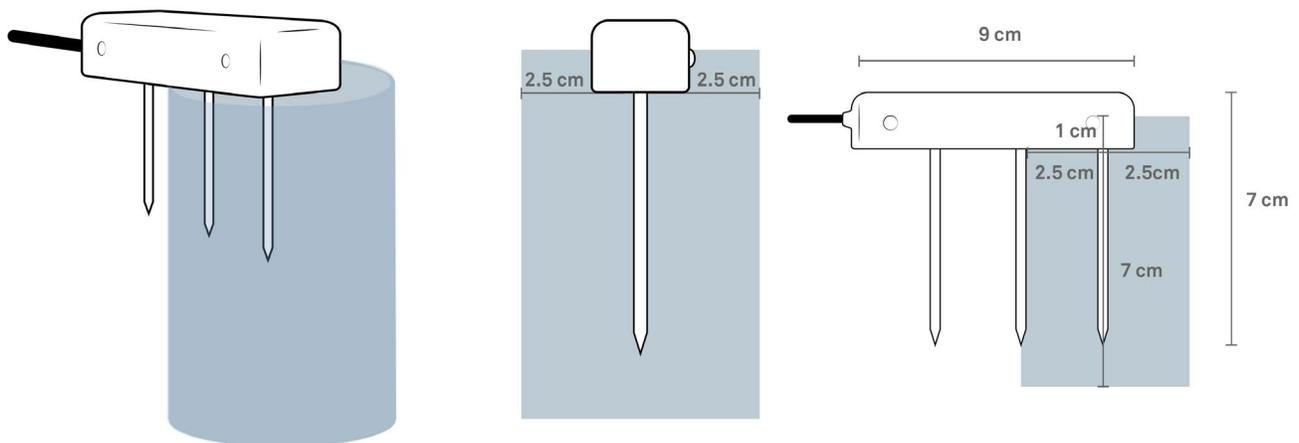
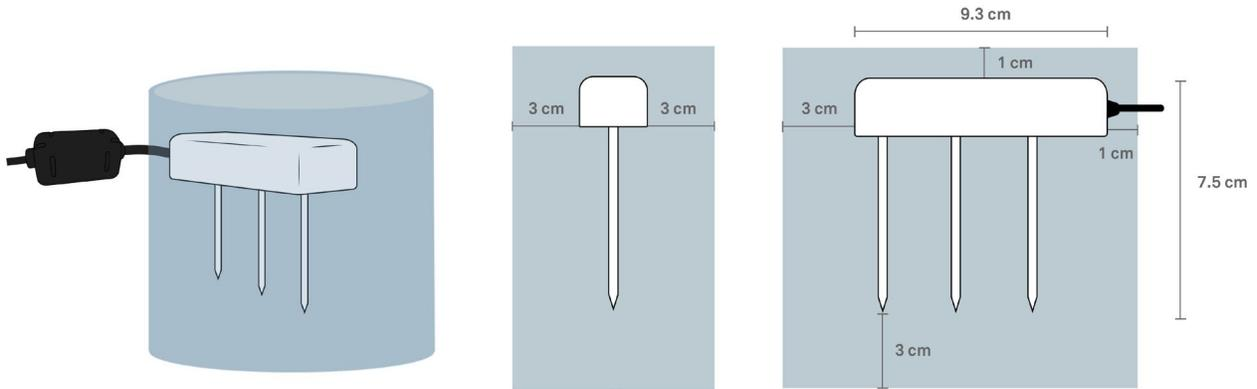

Figure 1. Idealized measurement volume of METER GS3 sensor
Figure 2. Idealized measurement volume of METER's TEROS 12 sensor
4.2.5 Sensor pins should be fully covered by the slab material. At a minimum, the material should fill the area outlined in Figure 1 or Figure 2 below.